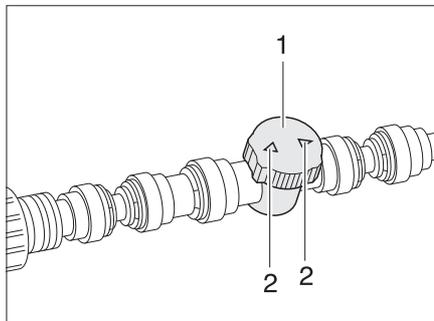

Fig. 121 Regulator floor warming unit
- Set the regulator (Fig. 121,1) to the desired flow level (max flow = arrows (Fig. 121,2) in direction of lines).
- Turn the regulator (Fig. 121,1) until both arrows (Fig. 121,2) are at a right angle to the heating lines.